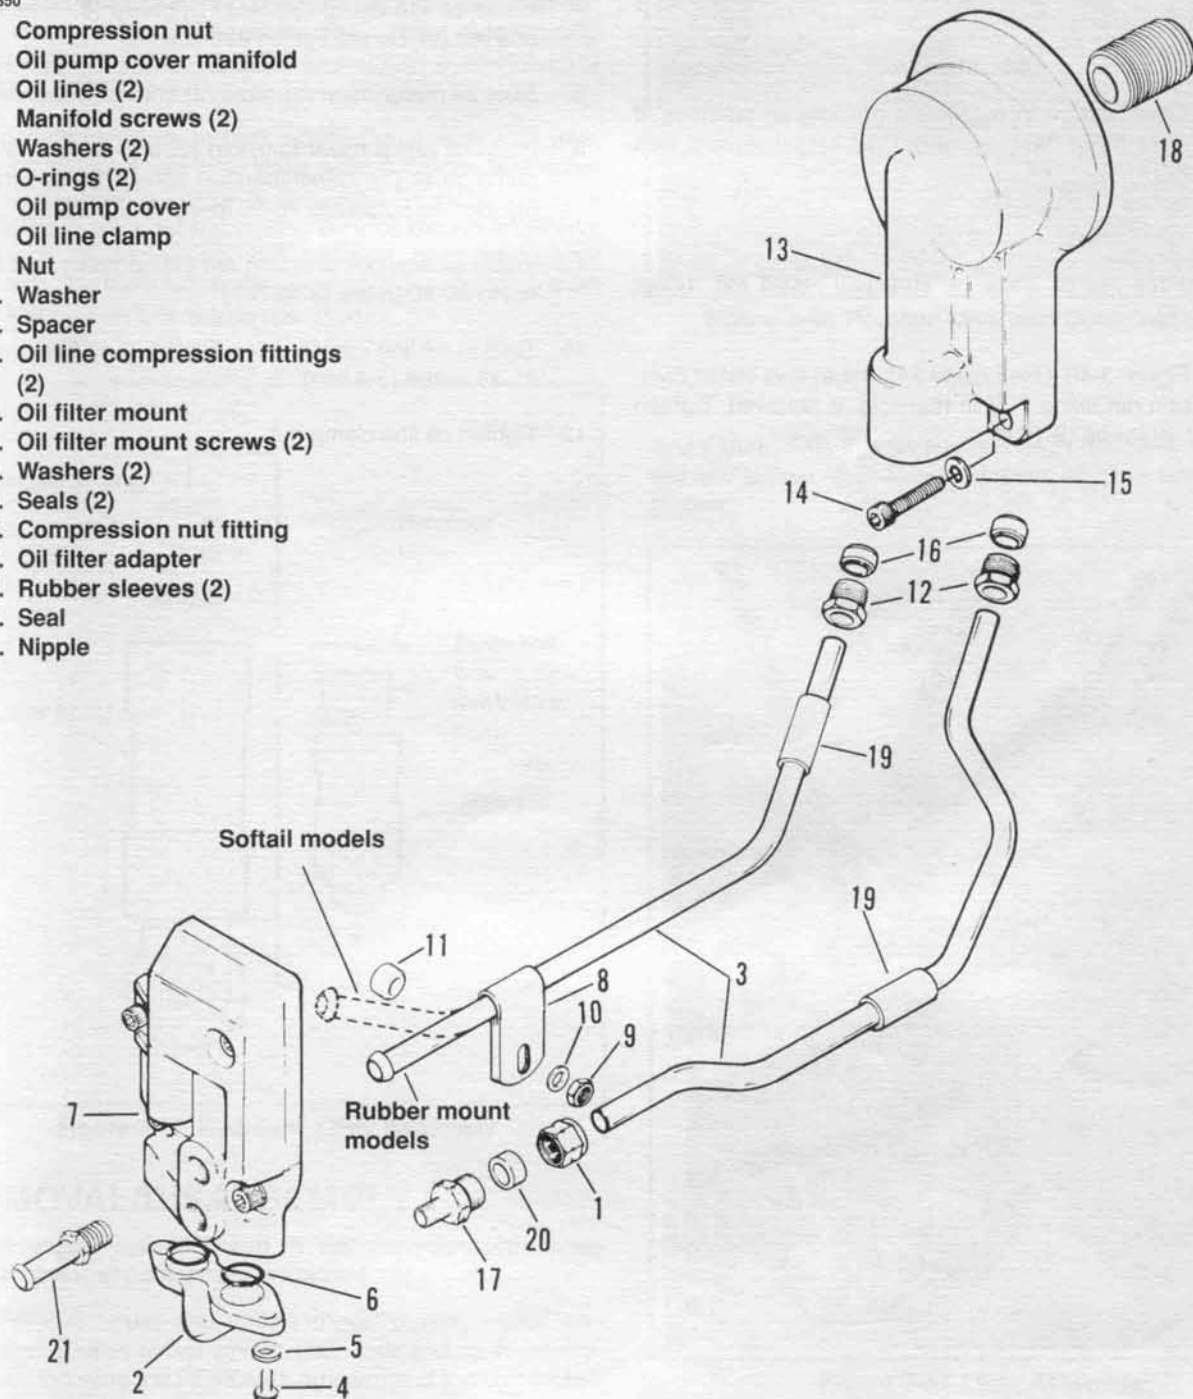

Figure 3-46. Oil Filter Mount and Oil Pump Cover
1. See Figure 3-46. Loosen oil line compression nut (1) at oil pump cover manifold (2) until it rests on the oil line (3).
2. Remove manifold screws (4) and washers (5).
3. Remove oil pump cover manifold (2) and O-rings (6) from oil pump cover (7).
4. Loosen or if necessary, remove oil line clamp (8) by removing nut (9), washer (10), clamp (8) and spacer (11).
5. Loosen or remove oil line compression fittings (12) at oil filter mount (13). Remove oil lines from oil filter mount.
6. Remove oil filter mount screws (14) and washers (15). Remove oil filter mount. Remove seals (16).
1. See Figure 3-46. Use Loctite 242 (blue) and install compression nut fitting (17) in manifold, if removed. Tighten to 80-90 **in-lbs** (9-10 Nm).